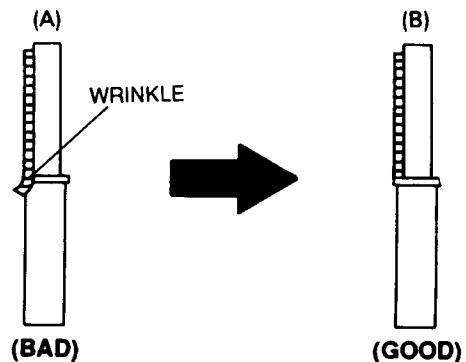

Fig. 6 Tape Guide Check
2. Confirm that there is no curl or wrinkle at the lower flange of the tape guide, as shown in Fig. 6 (B).
3. If the tape curls or wrinkles, slightly turn stet screw (C) tilt adjust on the A/C head assembly clockwise until it disappears, as shown in Fig. 6 (B).